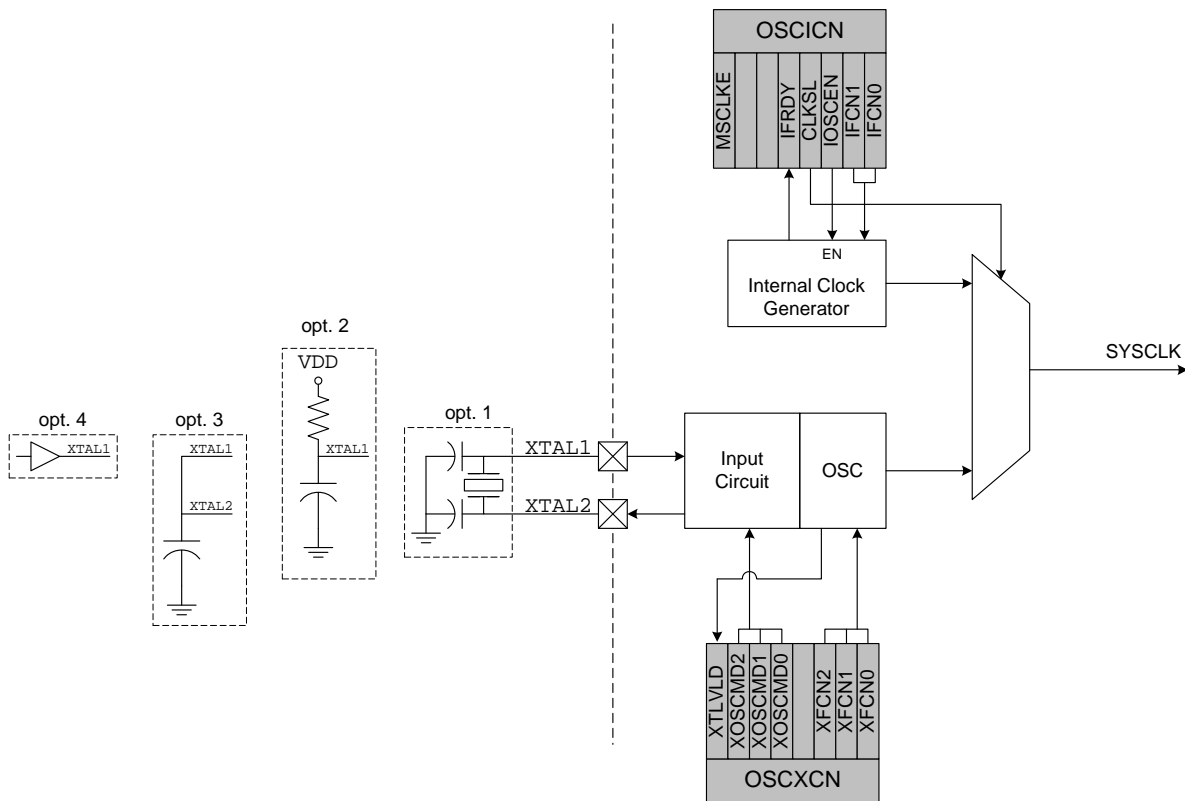

Figure 13.1. Oscillator Diagram
Both oscillators are disabled when the  $\overline{\text{RST}}$  pin is held low. The MCU can run from the internal oscillator permanently, or it can switch to the external oscillator if desired using CLKSL bit in the OSCICN Register. The external oscillator requires an external resonator, crystal, capacitor, or RC network connected to the XTAL1/XTAL2 pins (see Figure 13.1). The oscillator circuit must be configured for one of these sources in the OSCXCN register. An external CMOS clock can also provide the system clock by driving the XTAL1 pin. The XTAL1 and XTAL2 pins are NOT 5 V tolerant.
**CRYSTAL MODE** (Circuit from Figure 13.1, Option 1; XOSCND = 11x)
**RC MODE** (Circuit from Figure 13.1, Option 2; XOSCND = 10x)
**C MODE** (Circuit from Figure 13.1, Option 3; XOSCND = 10x)
If a crystal were used to generate the system clock for the MCU, the circuit would be as shown in Figure 13.1, Option 1. For an ECS-110.5-20-4 crystal, the resonate frequency is 11.0592 MHz, the intrinsic capacitance is 7 pF, and the ESR is 60 W. The compensation capacitors should be 33 pF each, and the PWB parasitic capacitance is estimated to be 2 pF. The appropriate External Oscillator Frequency Control value (XFCN) from the Crystal column in the table in SFR Definition 13.2 (OSCXCN Register) should be 111b.
If an external RC network were used to generate the system clock for the MCU, the circuit would be as shown in Figure 13.1, Option 2. The capacitor must be no greater than 100 pF, but using a very small capacitor will increase the frequency drift due to the PWB parasitic capacitance. To determine the required External Oscillator Frequency Control value (XFCN) in the OSCXCN Register, first select the RC network value to produce the desired frequency of oscillation. If the frequency desired is 100 kHz, let R = 246 kW and C = 50 pF:
If an external capacitor were used to generate the system clock for the MCU, the circuit would be as shown in Figure 13.1, Option 3. The capacitor must be no greater than 100 pF, but using a very small capacitor will increase the frequency drift due to the PWB parasitic capacitance. To determine the required External Oscillator Frequency Control value (XFCN) in the OSCXCN Register, select the capacitor to be used and find the frequency of oscillation from the equations below. Assume  $V_{DD} = 3.0 \text{ V}$  and  $C = 50 \text{ pF}$ :